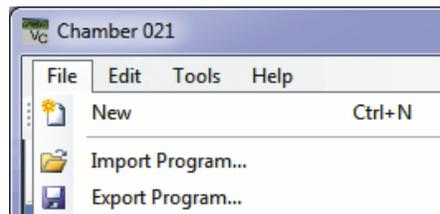

Figure 4-32 Export Program
1. From the **File** menu, select **Export Program** (Figure 4-32).